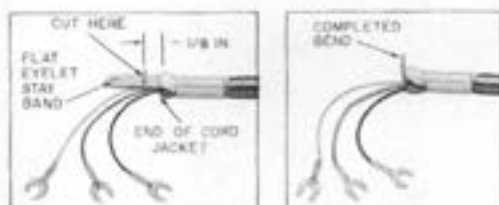

Fig. 42—Connecting Current Model D3BU or D4BP Cord to Early Model 505A Plug
(1) Cut flat eyelet stay band approximately 1/8 inch from end of cord jacket using 8-inch sidecutters, or equivalent (Fig. 42).
(2) Make a right angle bend in the remaining length of stay band in the direction away from the cord conductors.
(3) Position the mounting cord into the cord channel of the block, as shown in Fig. 42.
(4) Fit the cord fastener into the groove in the cord channel and press until it snaps into position.
(5) Connect the mounting cord spade tips in the socket-type terminals.
(6) Dress the conductors so they will not obstruct the center of the cord tip guide.
(7) Position the cap assembly on the block so that the right angle bend of the stay band is supported by the inner surface of the cap assembly; check that no cord leads are pinched.
(8) Insert cover screw and tighten.